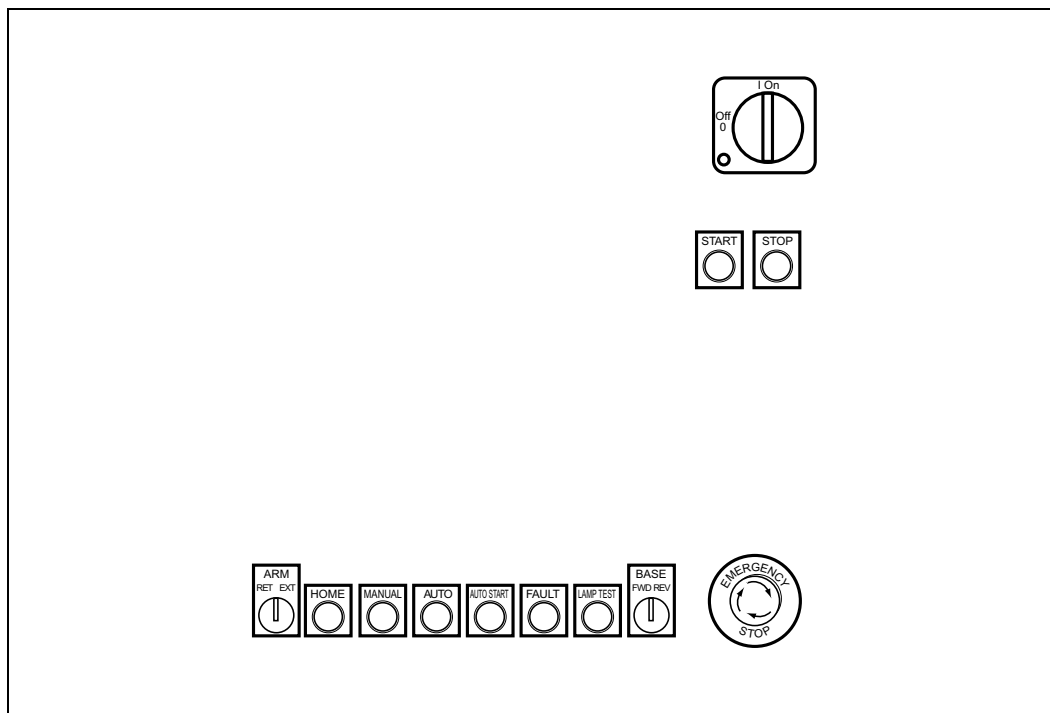
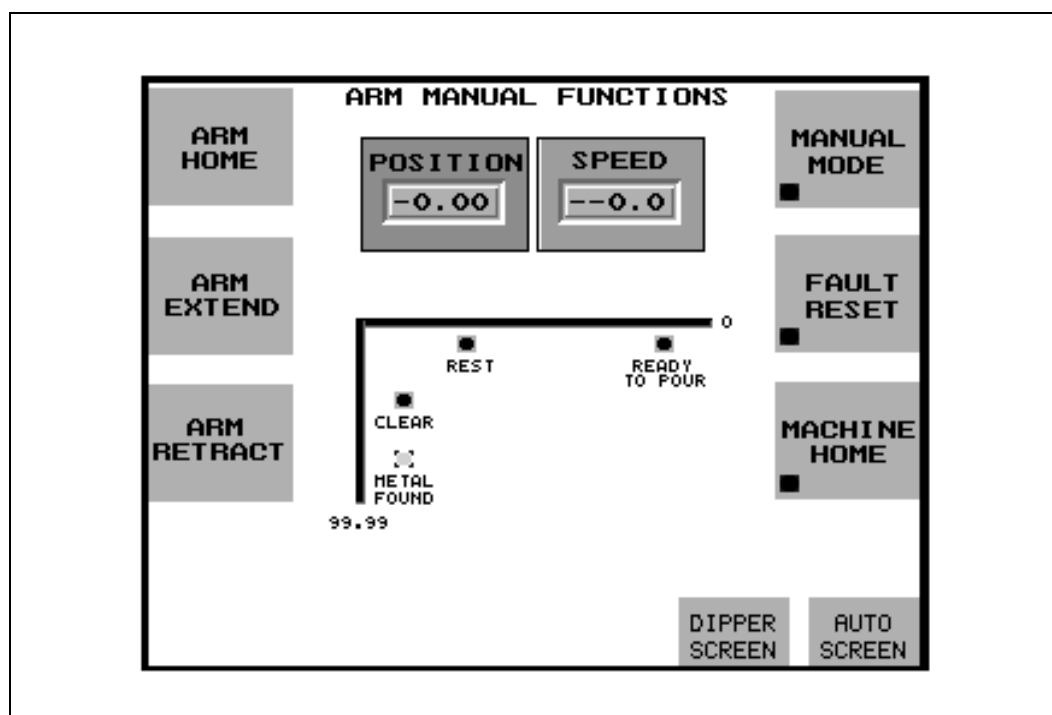

Figure 9-2: Manual Controls
Figure 9-5: Arm Manual Functions Screen
- **FAULT** push-button on the Manual Controls (Figure 9-2).
2. Home the machine by pressing the **HOME** push-button (Figure 9-2).
4. Use the manual ARM push-button on the Manual Controls (Figure 9-2) to manually move the arm from overtravel to overtravel location. Use the Arm Manual Functions Screen (Figure 9-5) to ensure proper settings and positions are programmed.